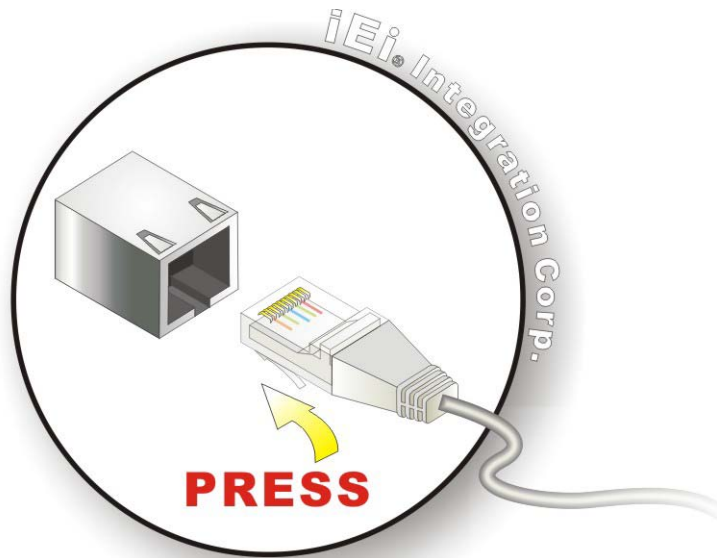

Figure 4-6: LAN Connection
Step 2: Align the connectors. Align the RJ-45 connector on the LAN cable with one of the RJ-45 connectors on the KINO-SE-i2. See **Figure 4-6**.